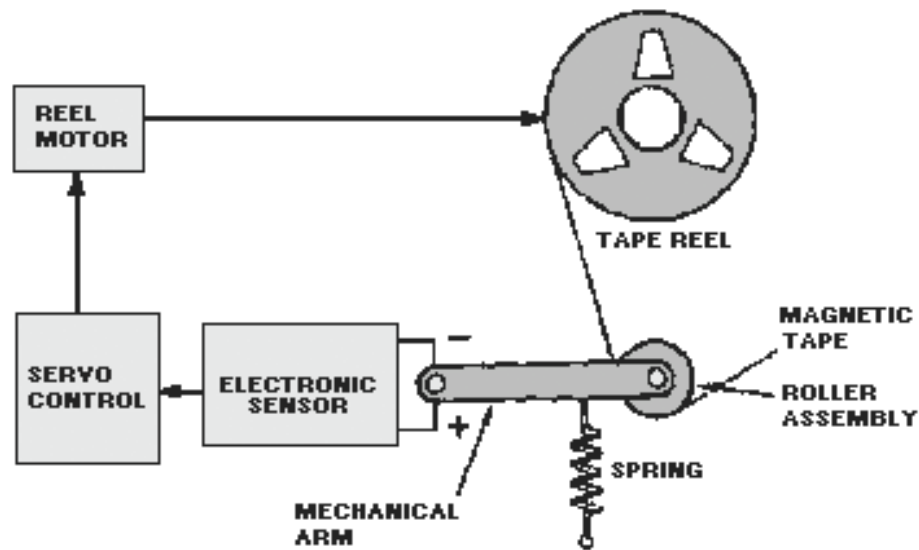

Figure 4-3.—Mechanical arm spring-tension tape buffering.
1. **Spring-tension** buffering systems use an electro-mechanical device to sense changes in tape tension. These changes are *feedback* that the speed control servo needs to adjust the speed of the tape reels. Figures 4-3 and 4-4 show two of the more common arrangements for spring-tension buffers.